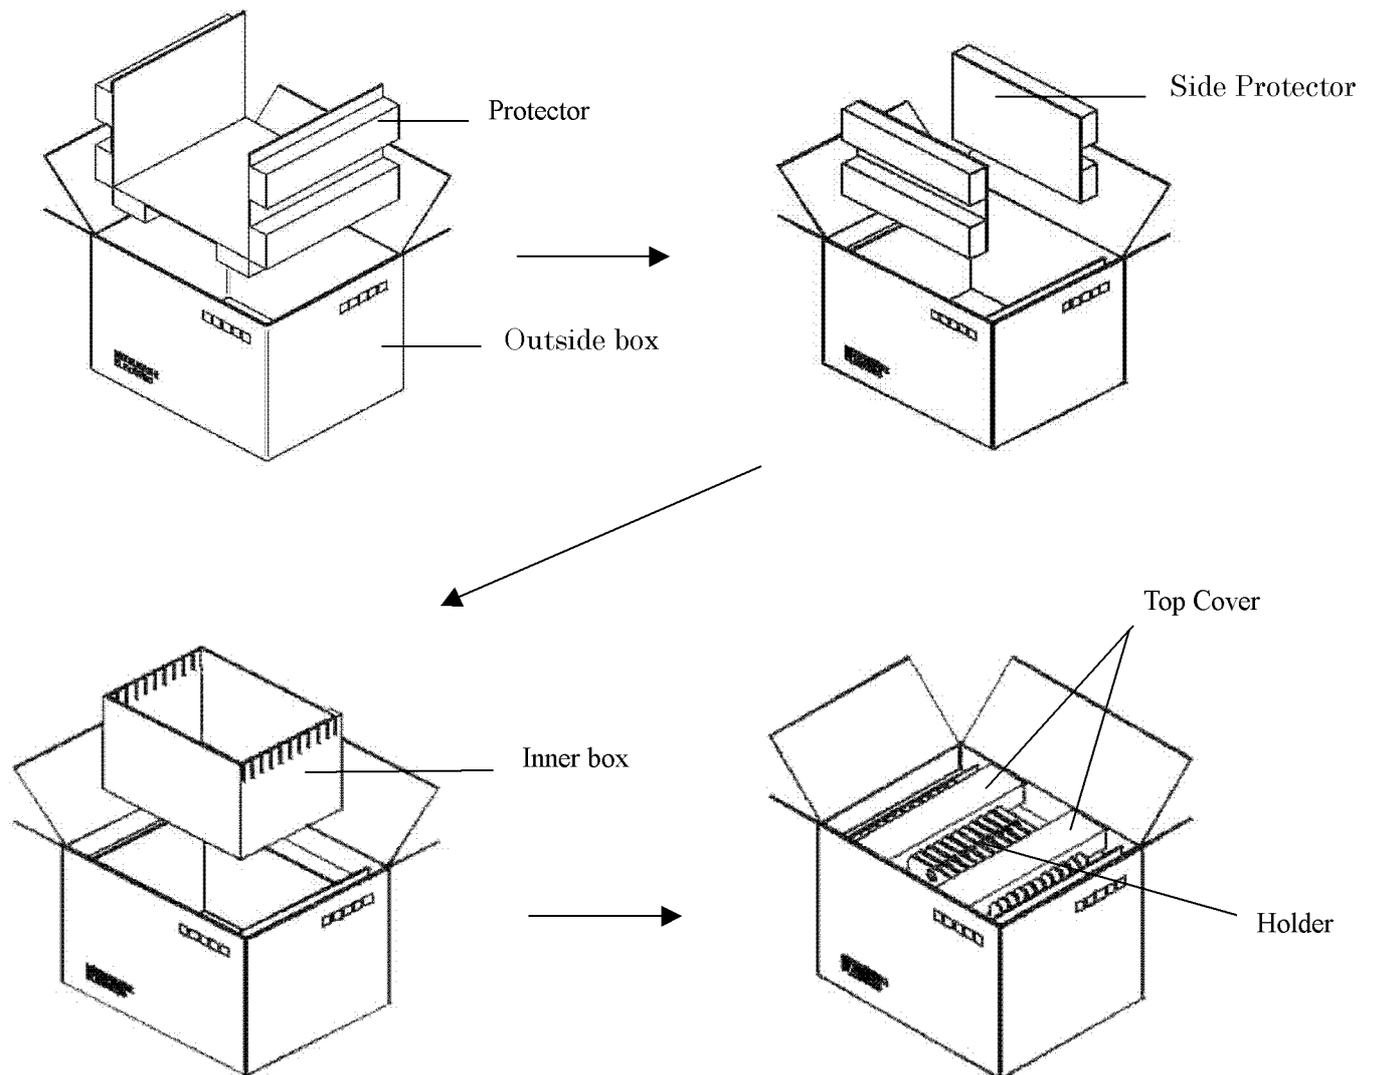

Fig.1 Illustration of packaging box structure
construction: See Fig.1
- (3) Upper protector is put on the products and shut the box.(Fig.1)